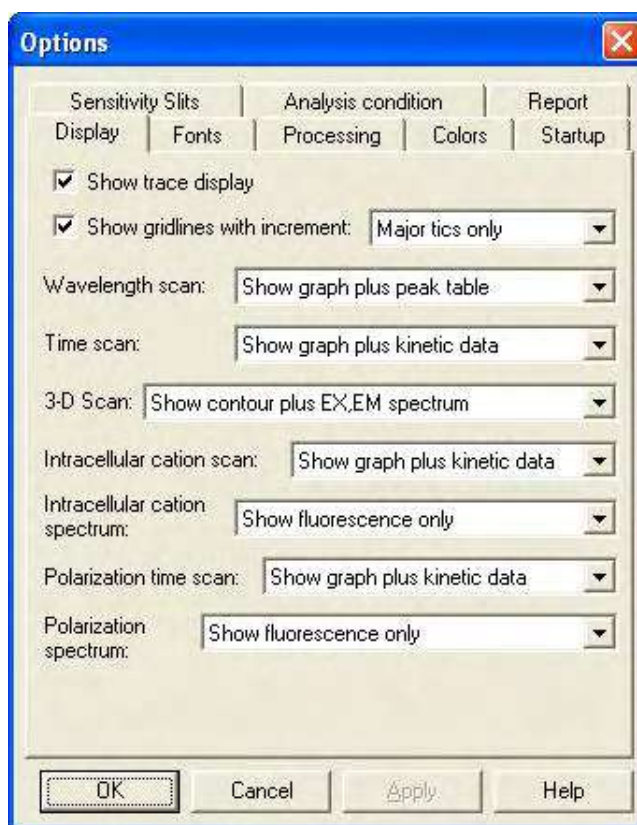

Fig. 5-10
- (4) The information to be displayed upon opening the data processing window can be selected here by excluding unnecessary one from display. Select the Options command from the Tools menu and click the ‘Display’ tab in the Options dialog box. Then, the window in Fig. 5-10 appears. For example, select “Show contour plus EX,EM spectrum plus peak table” and click the **OK** button.